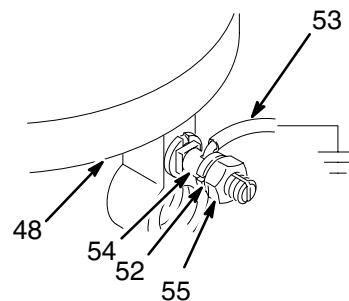

Fig. 14
1. Wire the power supply cord of the hydraulic supply (202) motor to the electric motor switch (51), supplied. Then wire the electrical service to the switch. See manual 307550.
- a. Loosen the grounding lug locknut (55) and washer (52). Insert one end the ground wire (53) into the slot in the lug (54) and tighten the locknut securely. See Fig. 14.